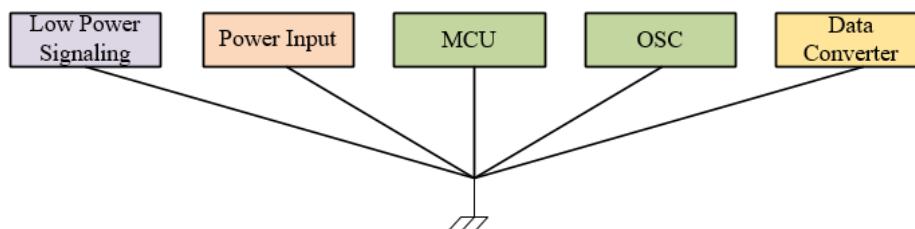

Figure 1. Single point return path example
- Figure 1 shows a single point return path that is found in low-cost designs, is focused on DC power up to a few Megahertz, after which the impedance brought on by the length of the wires causes appreciable voltage drops between connections; or